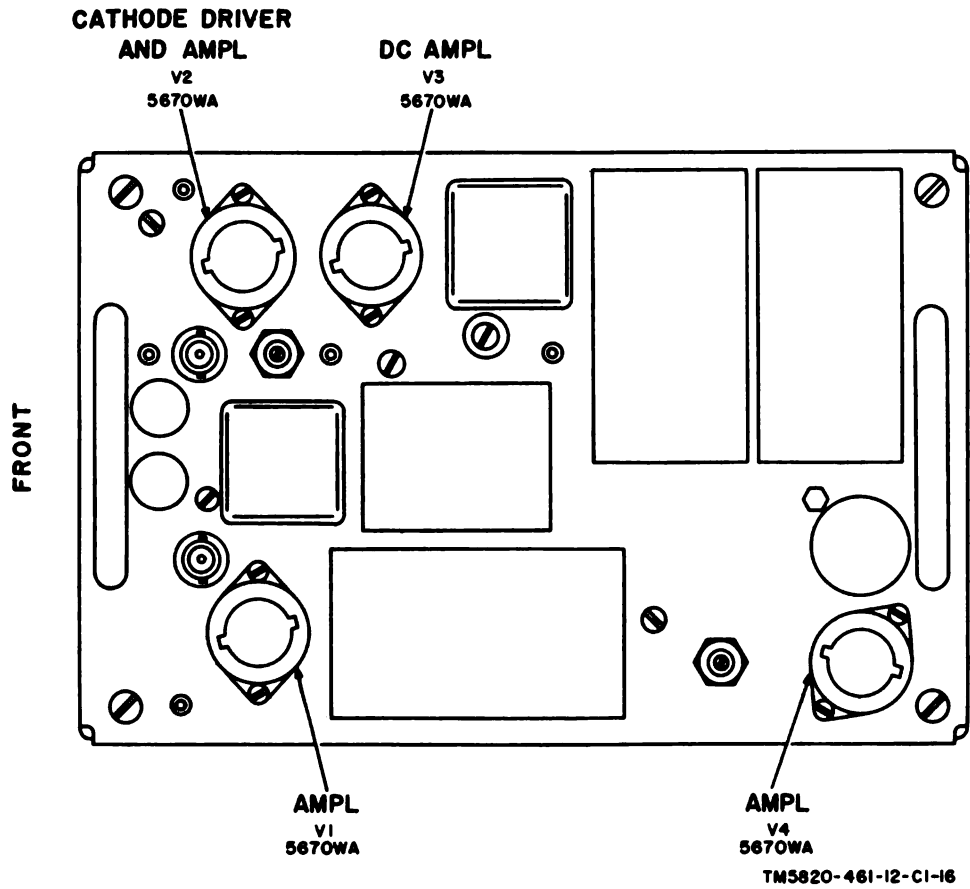

Figure 5-4. Baseband assembly 2A3 (part of T-893(P)/GRC), tube locations.
a. *T-893(P)/GRC*. Loosen the screws that attach the T-893(P)/GRC to the component case, and slide the component out of the case. The plug-in assembly locations in the T-893(P)/GRC are shown in figure 6-4. The locations of tubes in the plug-in assemblies of the T-893(P)/GRC are shown in figures 5-4 through 5-6. When the defective tube is replaced, slide the component back into the case and tighten the screws.